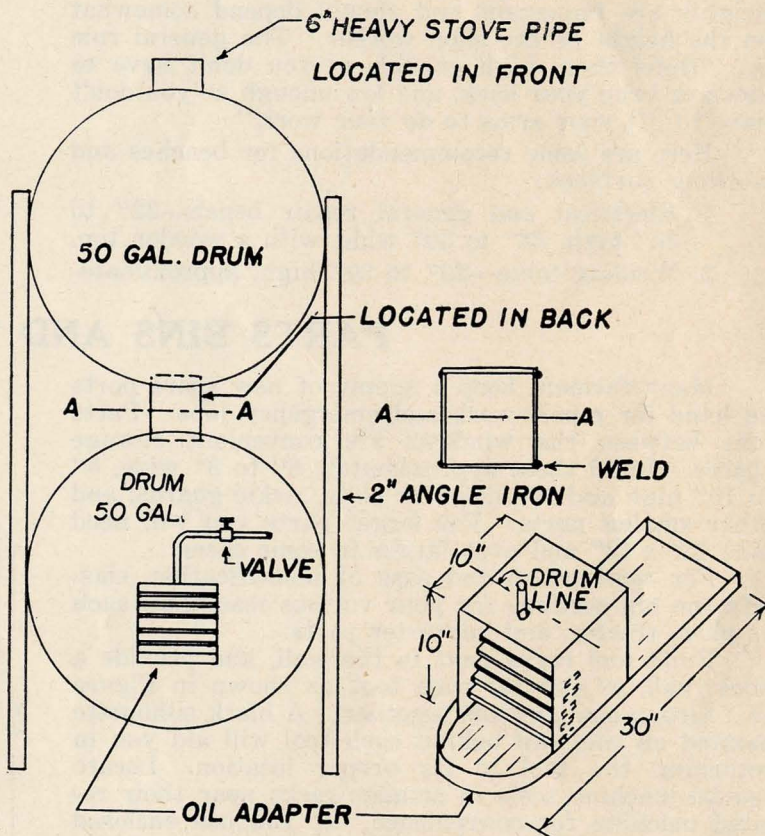

Fig. 13 The Double Drum-Type Heater (Courtesy of The State College of Washington)
**The Heating System** - The double (50 gallon) drum-type heater shown in Figure 13 is a satisfactory shop heater and can be built on the spot. This type of heater will use either coal, wood, or oil. Store fuel on the inside of the large shops and just outside the door of the smaller ones. In extremely cold areas and where the interior of the shop is to be finished with shiplap or wall-board, insulate your walls. Locate the chimney so it is accessible to both heating stove and the forge.